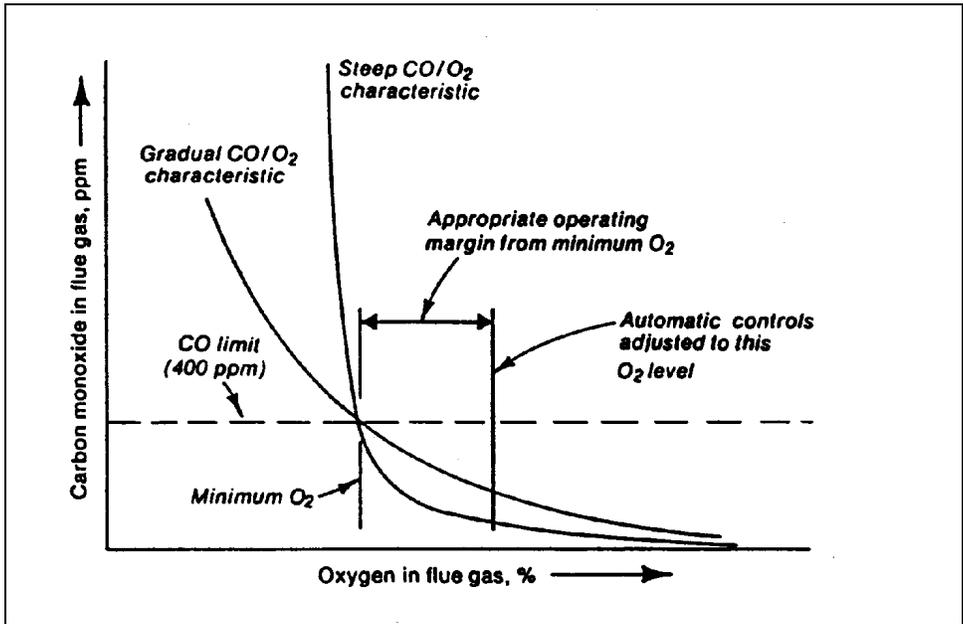

Figure 1 Oxygen/CO Characteristic Curve
6. Develop an O₂/CO curve (for gaseous fuels) or O₂/smoke curve (for liquid fuels) similar to those shown in Figures 1 and 2 using the excess oxygen and CO or smoke-spot number data obtained at each combustion air flow setting.